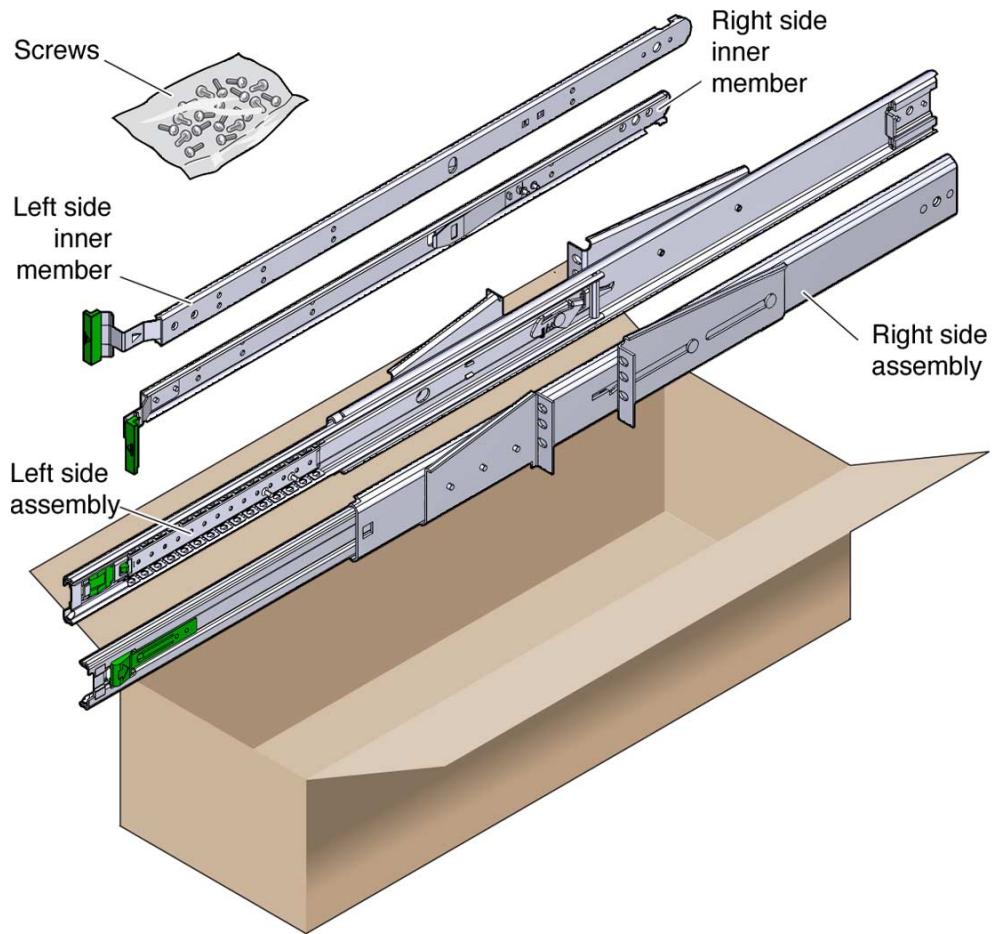

FIGURE 3-14 Contents of the Sliding Rail 19-Inch 2-Post Kit
1. Obtain the slide assemblies from the rack kit (FIGURE 3-14).
4. Get the rack brackets (front and rear) from the rackmount kit (FIGURE 3-14).